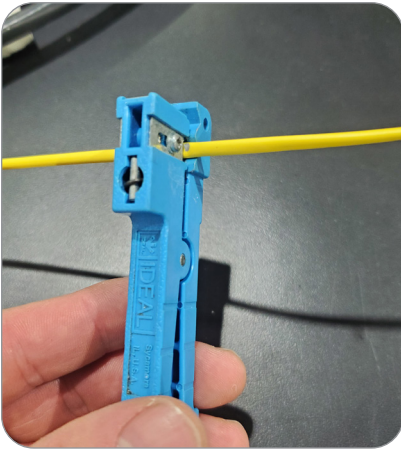
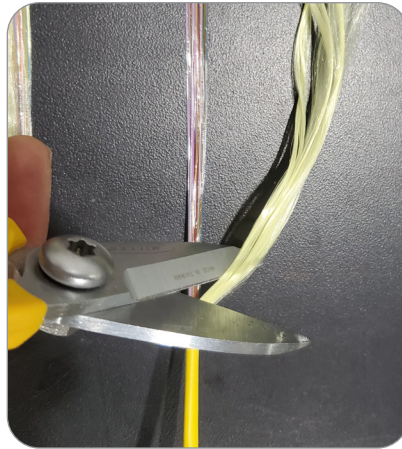

Figure 68
Figure 69
4. Using an appropriate ringing tool, cut and remove the sub-unit or buffer tube where it was previously marked in step 2 (**Figure 68**). Cut away any aramid yarn or water-blocking material (**Figure 69**).